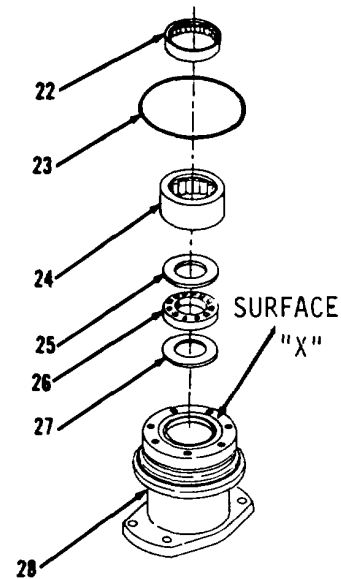

Figure 10-64.
1. Using arbor press, install race (27), bearing (26) and race (25) in housing (28, Figure 10-64), from surface "X" end.
2. Using arbor press, install bearing (24) in housing (28) from surface "X" end. Set to depth of 2.410 inches below surface "X".
3. Install new preformed packing (23).
4. Using an arbor press, install bearing (22) in housing (28), from surface "X" end. Set to depth of 0.100 inch below surface